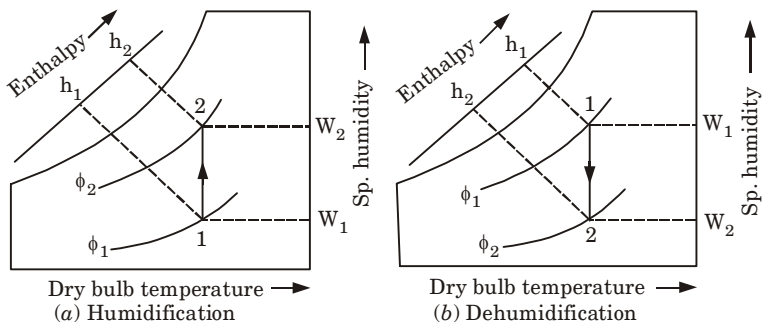

Fig. 4.18.4. Humidification and dehumidification.
2. The humidification and dehumidification processes are shown in Fig. 4.18.4(a) and (b) on the psychrometric chart :